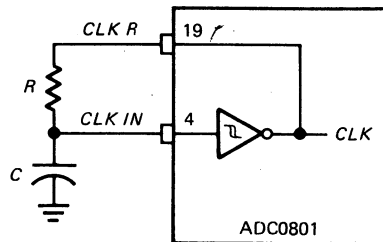

Fig. 16-33
- 16-11. In Fig. 16-33 $R = 20$ k Ω and $C = 75$ pF. What is the converter clock frequency?